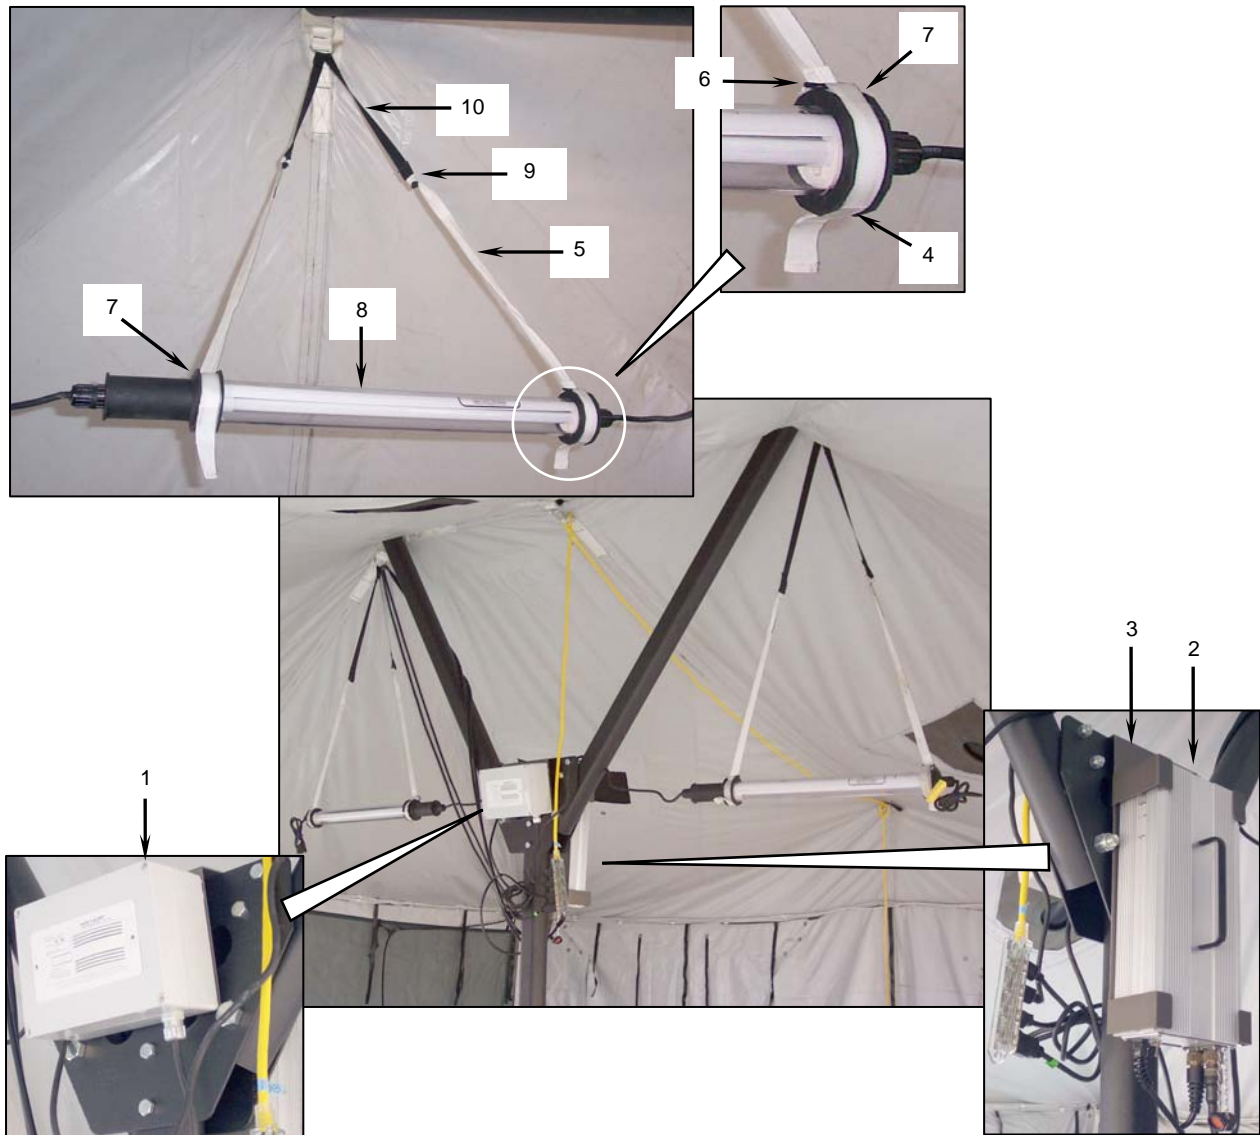

Figure 44. Removing the CO Monitor, Power Converter, and Electric Lights.
- a. Remove the carbon monoxide monitor **(Figure 44, Item 1)** from the tent pole.
- b. Remove the power converter **(Figure 44, Item 2)** and power converter bracket **(Figure 44, Item 3)** from the tent pole.
- c. Disconnect the light-hanging strap hook and loop fasteners **(Figure 44, Item 4)** and pull the straps **(Figure 44, Item 5)** out from their D-rings **(Figure 44, Item 6)**, releasing the straps from the lip **(Figure 44, Item 7)** at both ends of the light assembly **(Figure 44, Item 8)**.
- d. Release the knots **(Figure 44, Item 9)** that connect the light-hanging straps **(Figure 44, Item 5)** to the tent light hanger **(Figure 44, Item 10)** and disconnect the straps from the hanger.